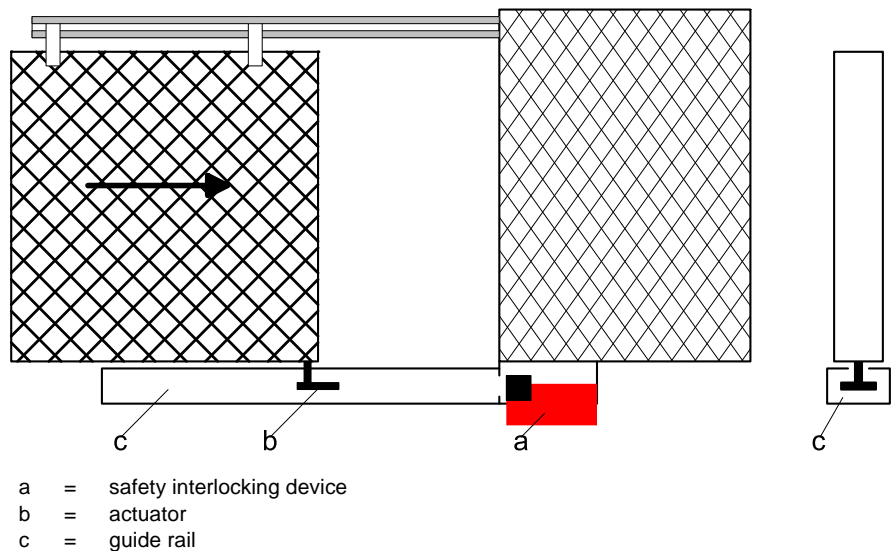

Fig. 7 Example of mounting: “Concealed installation”
- A concealed installation can hinder the insertion of “substitute actuators” and at the same time provide increased protection against damage (see Fig. 7):